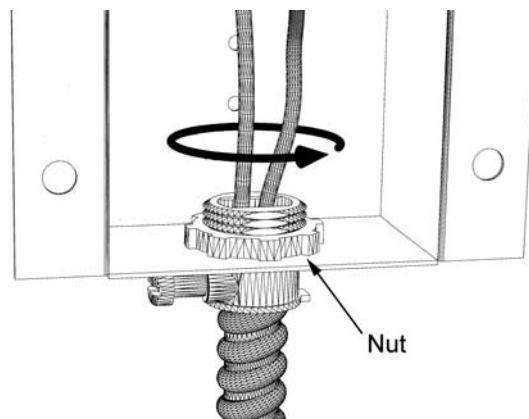

Figure 1
- B. Remove the four(4) screws holding the thermostat bracket in place. Then unplug the two(2) terminals going to the thermodisc. Next remove the two(2) screws holding the thermodisc in place.
- C. Remove the conduit assembly from the bracket by simply removing the nut as shown in Figure 1.